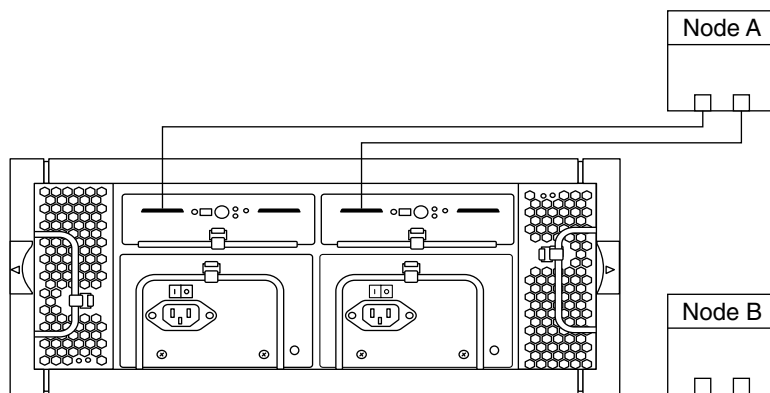
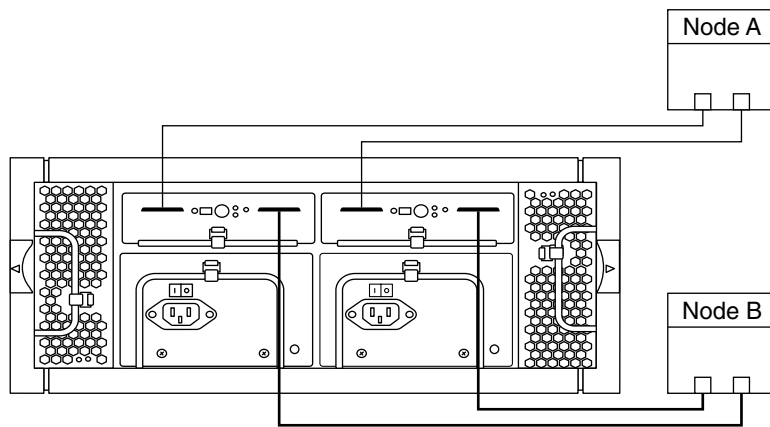

FIGURE 3-26 SPARC: Adding a Sun StorEdge D2 Split-Bus Configuration: Part 1
FIGURE 3-28 SPARC: Adding a Sun StorEdge D2 Split-Bus Configuration: Part 2
- For split-bus configurations, see Figure 3-26 and Figure 3-28.